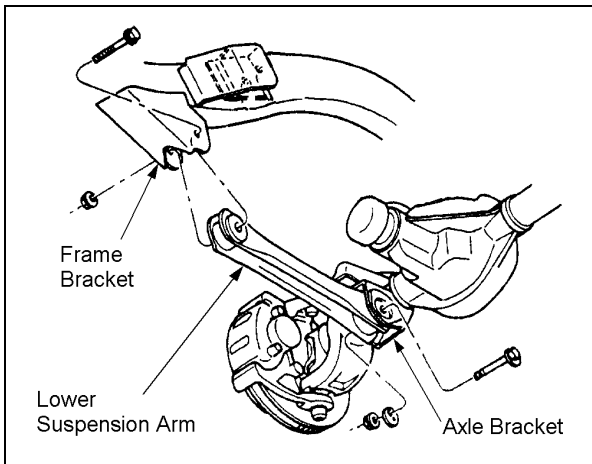

Figure 4
4. Remove the nut, cam, and cam bolt from the axle bracket. Remove the nut and bolt from the frame bracket. Remove the lower suspension arm. See Figure 4